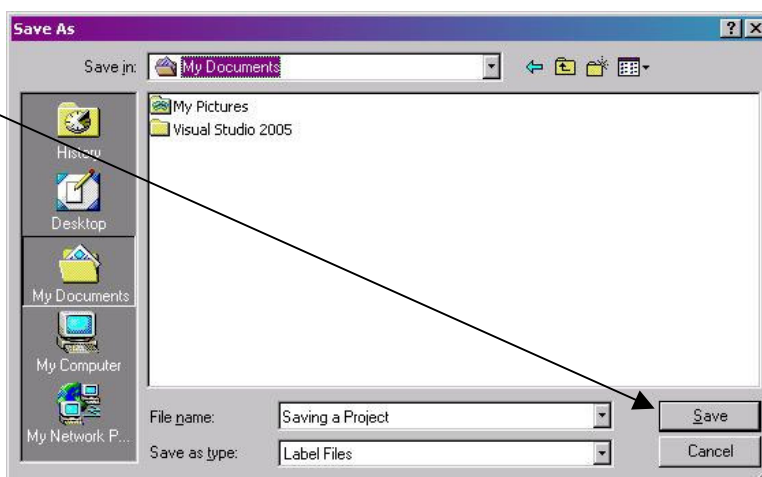

Figure 5.1.6: Saving the Project
4. Click the save  button to have the project saved (see Figure 5.1.6).